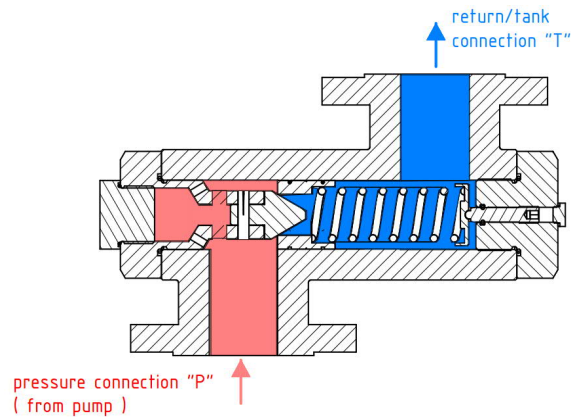
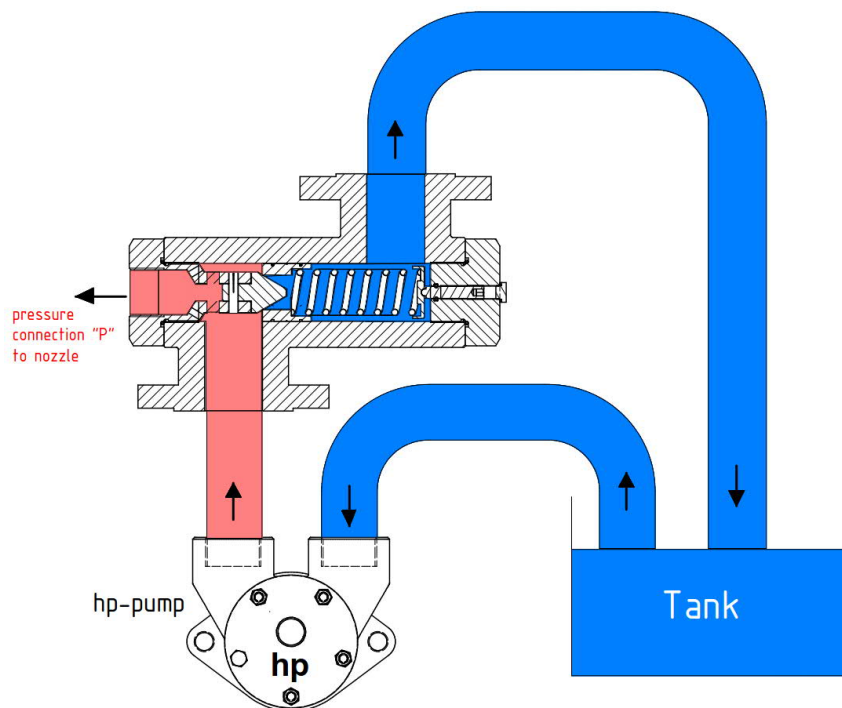

Fig.2 One pipe system
Fig.3 Two pipe system
- The overflow valve can be connected at one pipe system to work as a max. pressure regulator (Fig.2) or at two pipe system to control the system pressure (Fig.3) – possible only with FDR50.